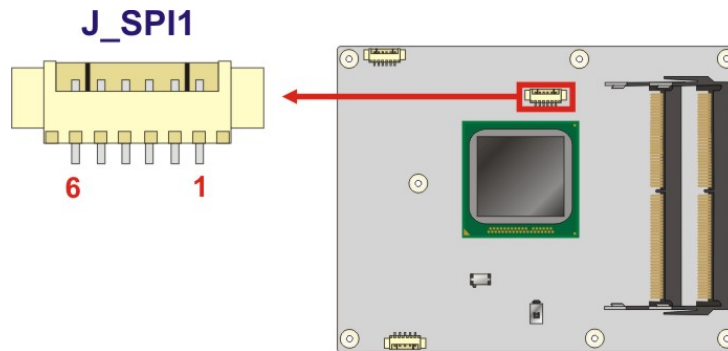

Figure 3-7: BIOS SPI Flash Connector Location
- CN Location:** See **Figure 3-7**